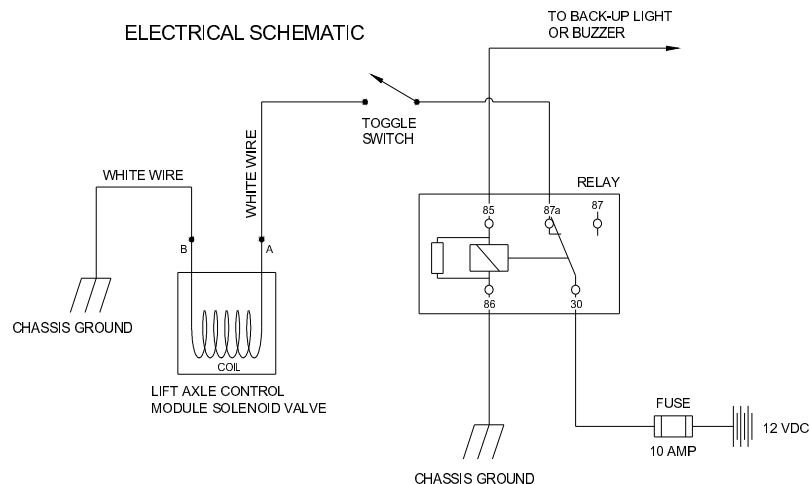

FIG. 6
- Make all wiring connections to fuse, relay, and truck as shown in Figure 6, crimping Push-On Connectors to wires and mounting them in the supplied relay base. **NOTE:** Make sure the 12 VDC source is switched (turns off with the key)